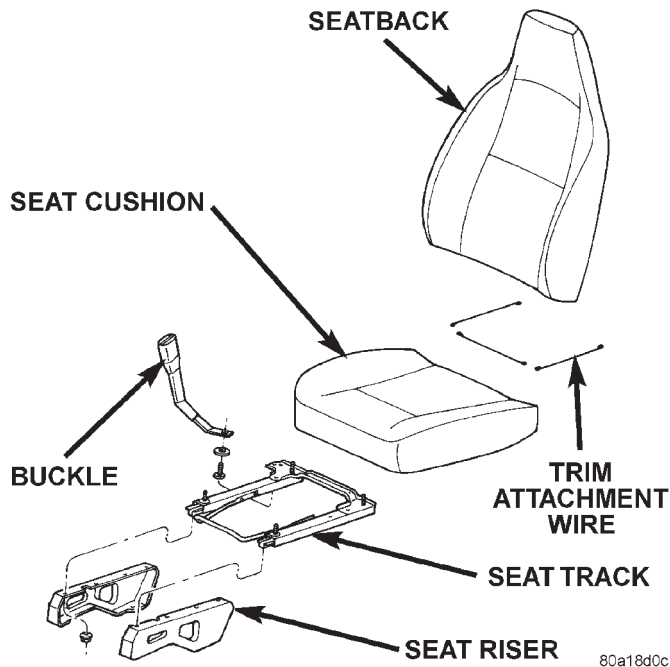

Fig. 54 Seat Belt Buckle
- (1) Remove the bolt attaching the seat belt buckle to the seat track/seat riser (Fig. 54).
- (2) Disengage seat belt harness connector (driver's seat only).
- (3) Remove buckle from vehicle.